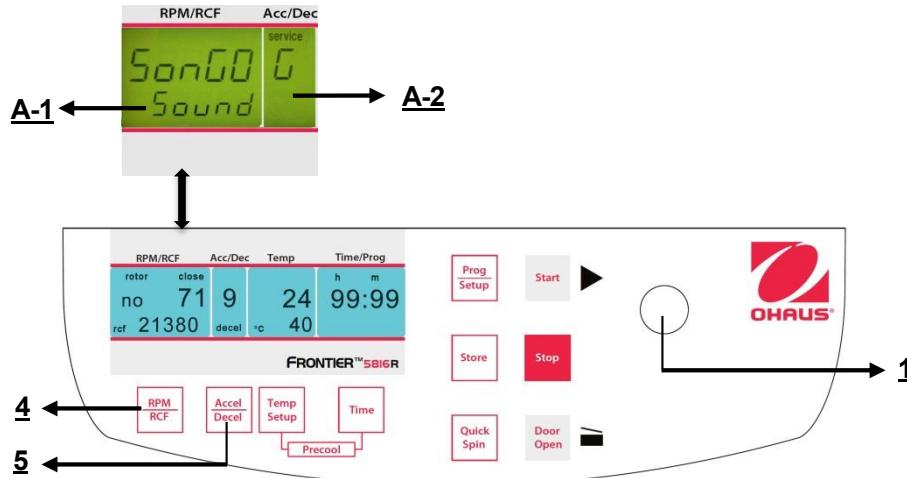

Figure. 34
Proceed as described under point 4.1.1 to enter this program mode and then press the key "Accel/Decel" (5). In the display "Acc/Dec" (A-2) the word "Service" flashes. Now select the letter "G". with the adjusting knob (1). As a result, in the display "RPM | RCF" (A-1), the word "Song/Go/Sound" appears. After pressing the key "RPM | RCF" (4), you can select a song with the adjusting knob (1). (See figure 34).